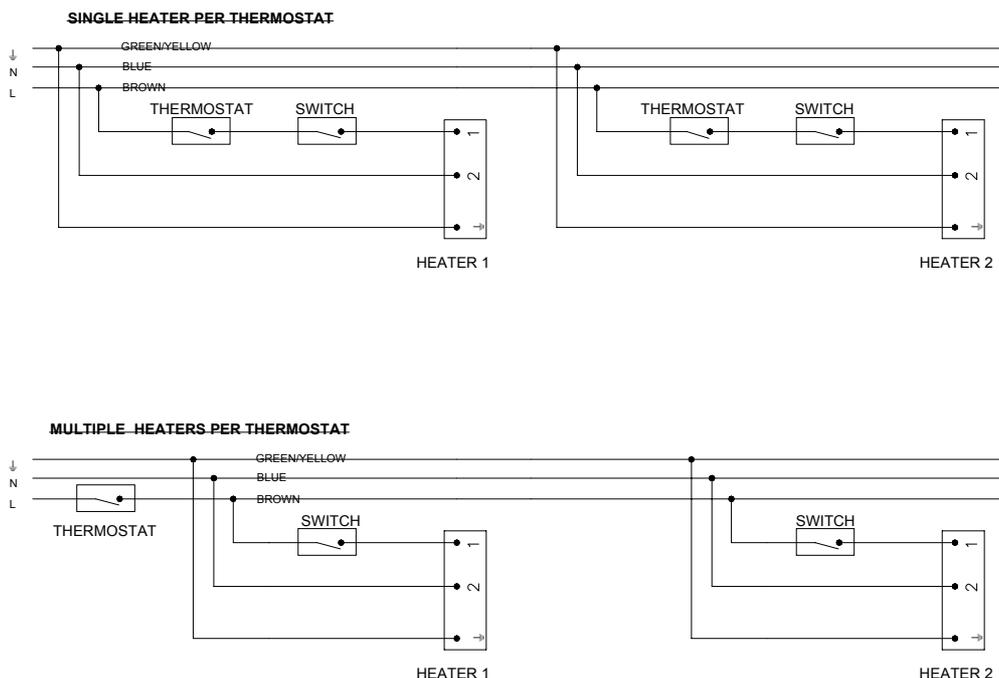

Fig.3
3.3.2 Twin core and earth PVC covered flexible supply cable (0.5mm2 - to National or Local standard specification) must be used, with connections made as shown in Fig. 3.